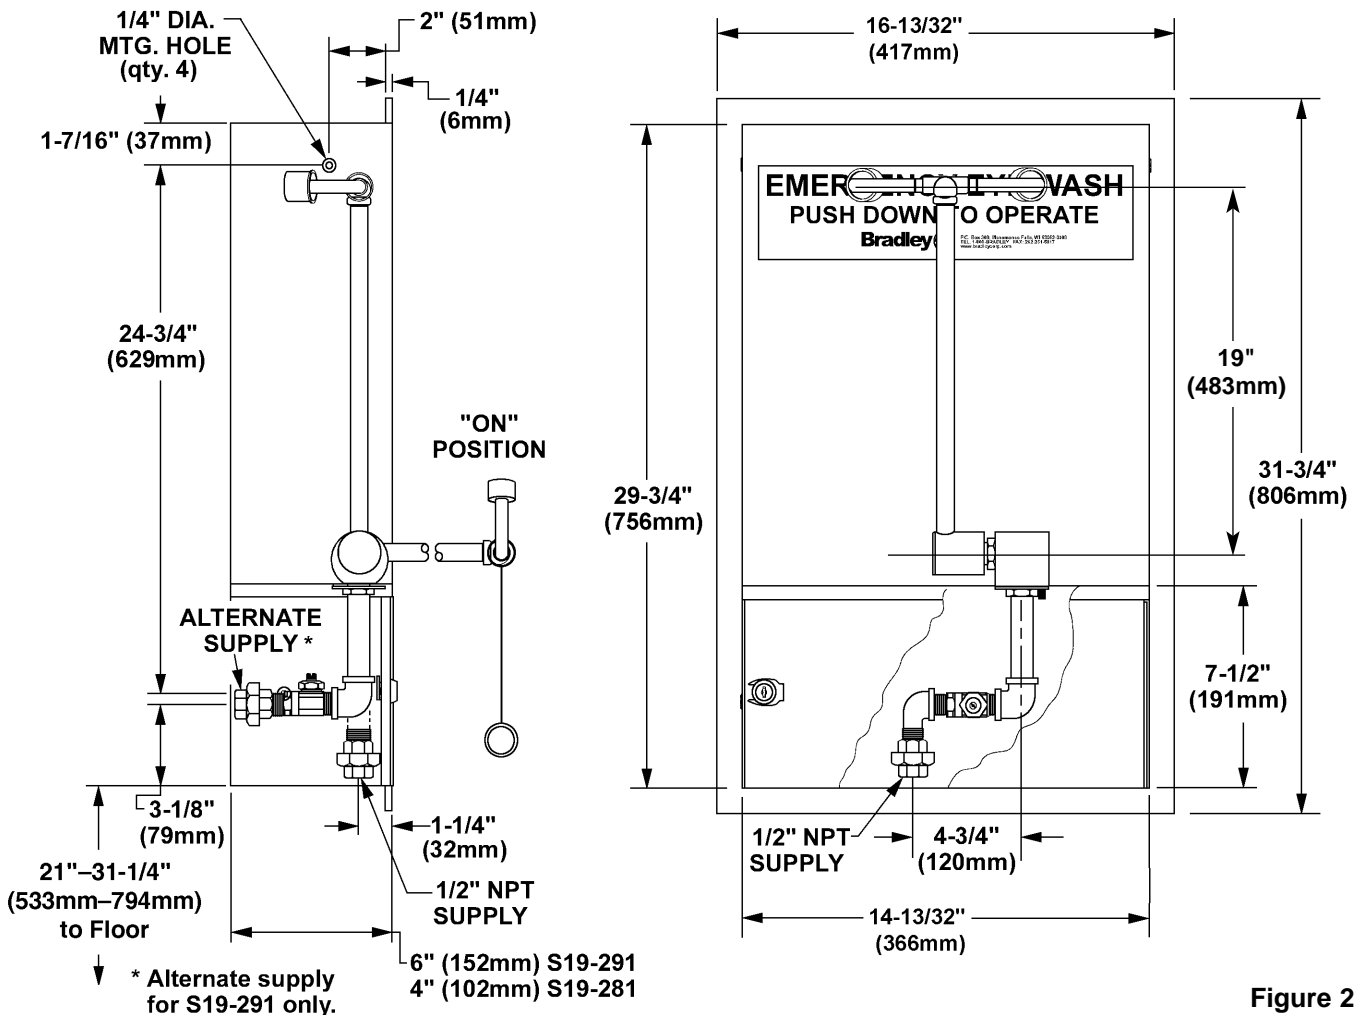

Figure 2
2. Rough-in 1/2" NPT water supply at the dimensions shown in Figure 2.
3. Position unit in wall opening and mount eye wash in wall with four bolts (supplied by installer) at the locations shown in Figure 2.